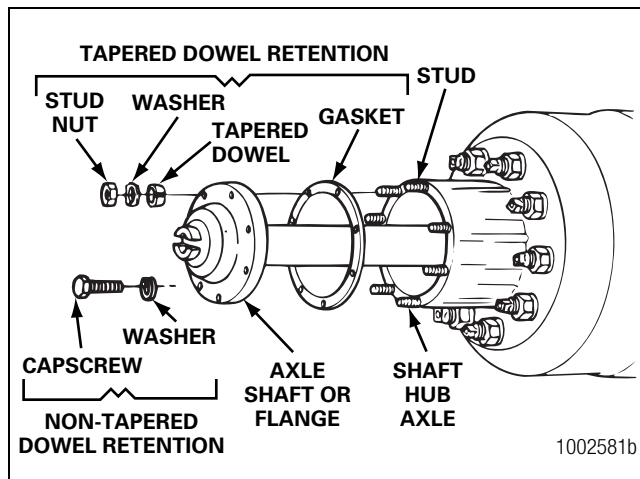

Figure 5.119
3. Install the gaskets and axle shafts into the axle housing and carrier. The gasket and flange of the axle shafts must fit flat against the wheel hub. Figure 5.119.
4. If the wheel hubs have tapered hole studs, install solid tapered dowels onto each stud and onto the flange of the axle shaft. Figure 5.119.
5. If the wheel hubs have straight hole studs, install the nuts and washers onto the studs. Figure 5.119. Tighten the nuts to the correct torque value. Refer to Section 8.
10. Install the gasket and axle shaft into the housing. The gasket and flange of the axle shaft must fit flat against the wheel hub. Figure 5.119.
- 3. Install the gaskets and axle shafts into the axle housing and carrier. The gasket and flange of the axle shafts must fit flat against the wheel hub. Figure 5.119.
- 4. If the wheel hubs have tapered hole studs, install solid tapered dowels onto each stud and onto the flange of the axle shaft. Figure 5.119.
- 10. Install the gasket and axle shaft into the housing. The gasket and flange of the axle shaft must fit flat against the wheel hub. Figure 5.119.
2. If the drive axles are equipped with a main differential lock, shift the differential to the unlocked or disengaged position. Install the axle shafts with two sets of splines and new gaskets in the correct location as follows. Figure 5.119.